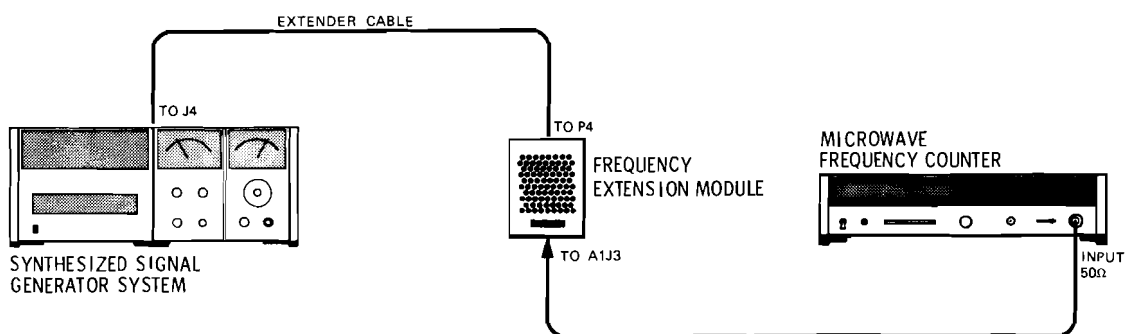

Figure 5-2. 4.43 GHz Oscillator Adjustment Test Setup
1. Interconnect equipment as illustrated in Figure 5-2.